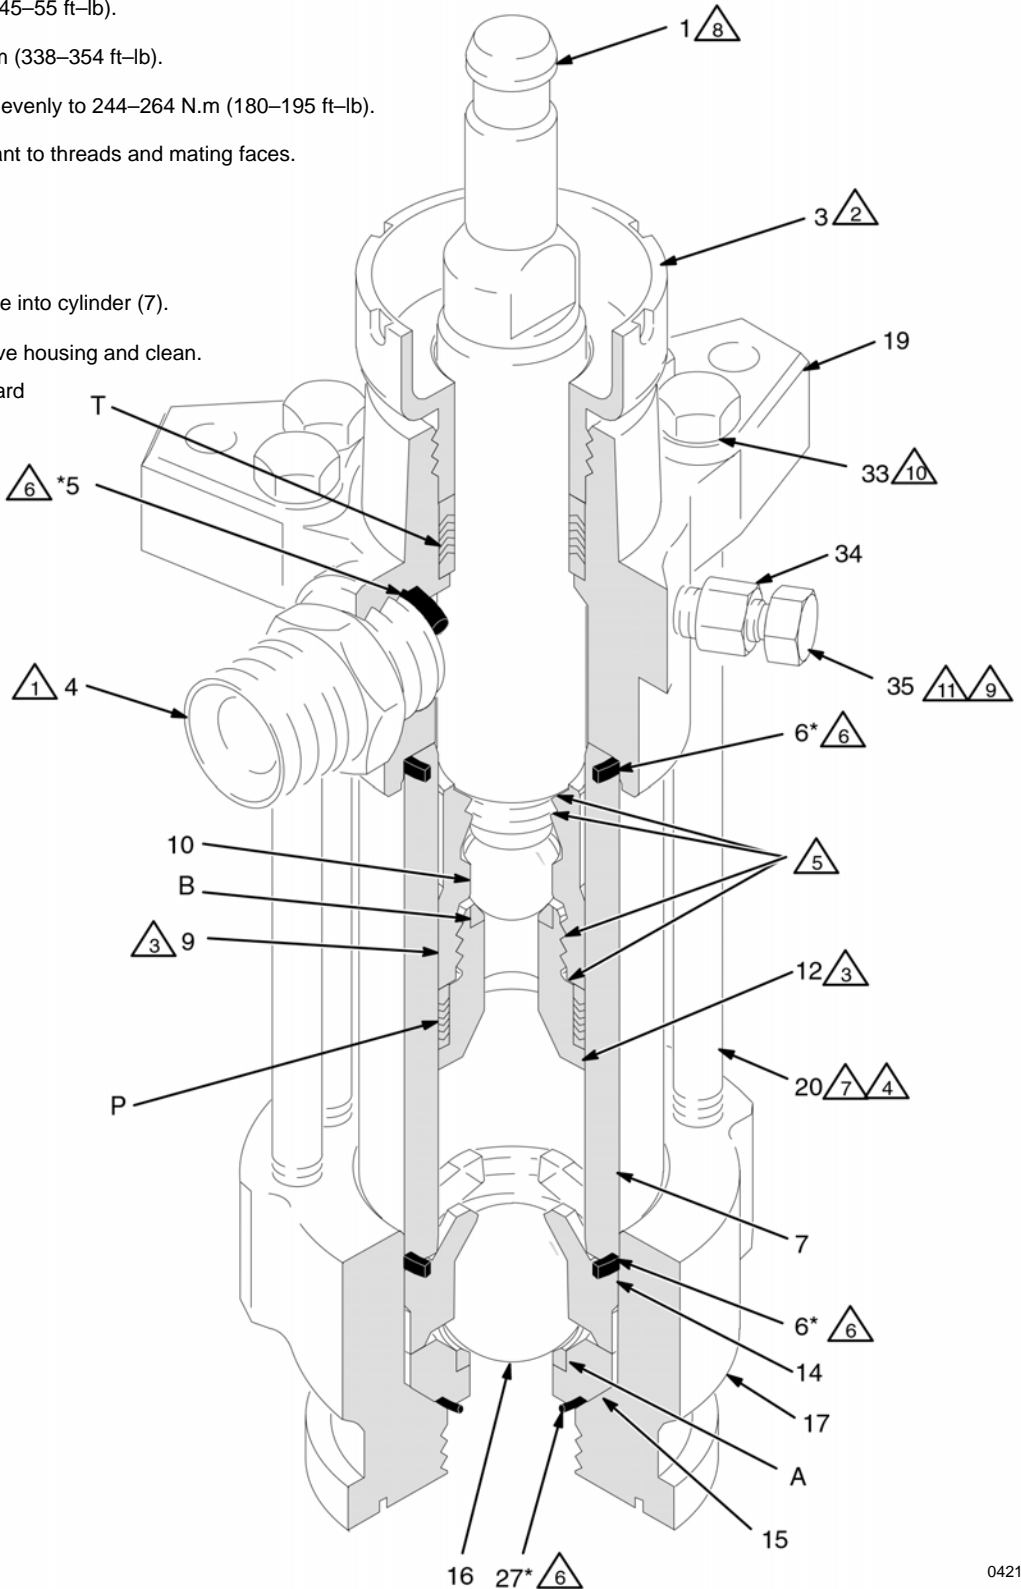

Fig. 9
1. *If it was necessary to remove the ball guide (9) from the displacement rod (1),* place the flats of the rod in a vise. Apply anti-seize lubricant 222955 to the threads and mating faces of the rod and the ball guide. Screw the ball guide onto the rod, hand tight. Remove from the vise. See Fig. 9.
2. Place the female gland (13\*) on the piston seat housing (12). Install the five v-packings (P) one at a time **with the lips facing up**. Refer to pages 30 and 32 for the correct packing order for your pump. Install the male gland (11\*).
**NOTE:** Service Tool 109507 is available as an accessory. The tool fits over the top of the displacement rod (1), making it easier to apply a 24 inch adjustable wrench or 3/4 in. drive socket when connecting the rod to the piston assembly.
3. Apply anti-seize lubricant 222955 to the threads and mating faces of the ball guide (9) and piston seat housing (12). Place the flats of the piston seat housing in a vise. Place the ball (10) on the piston seat. Screw the assembled rod (1) and ball guide (9) onto the piston assembly hand tight, then torque to 459–481 N.m (338–354 ft-lb).
4. Use an arbor press to reinstall the rod (1) into the cylinder (7), as follows. (The cylinder is symmetrical, so either end may face up.) Lubricate the piston packings (P). With the piston end facing down, lower the rod into the cylinder. Start the piston into the cylinder as much as possible, then drive the rod and piston the rest of the way into the cylinder with the arbor press.